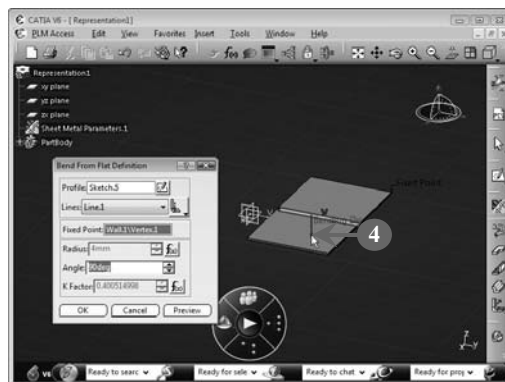

FIGURE 6.54
The **Bend From Flat Definition** dialog box opens (**Figure 6.54**).
4. *Reverse* the bending direction by clicking the blue arrow, if required, as shown in **Figure 6.54**: